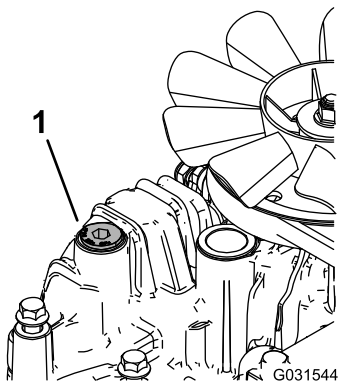

Figure 79
11. Loosen the vent plug in each transmission so that it is loose and wobbles (Figure 79).